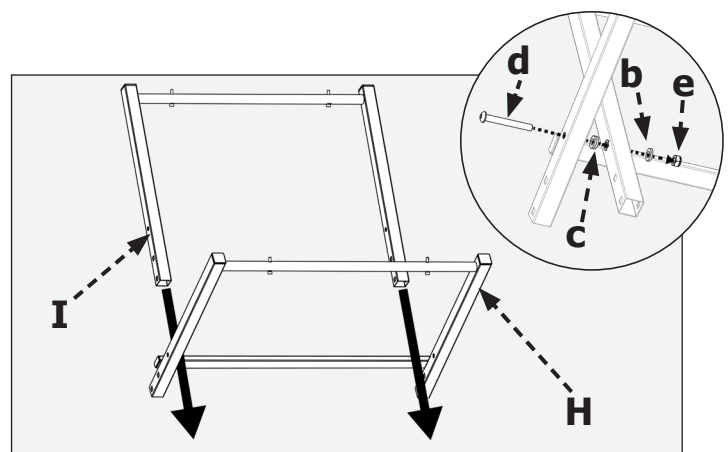

FIGURE 1
Assemble stand part 2 (I) through stand part 1 (H) that has cross support as shown in (FIGURE 1). Secure stand assembly with M8 x 65mm hex socket head screw (d), M8 spacer (c), M8 washer (b), and M8 lock nut (e). (FIGURE 1)